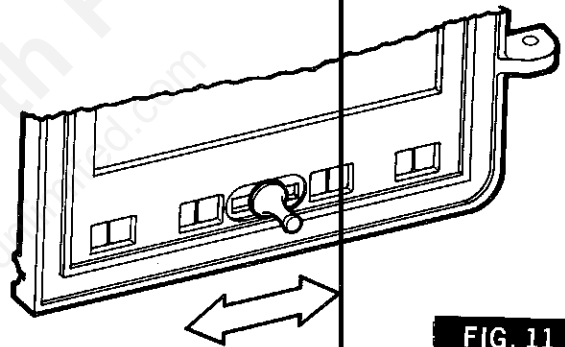

FIG. 11
1. Open the air inlet shutter on each door (See Fig. 11).
1. The temperature in the room and the rate at which wood is burned can be controlled by adjustment of the air inlet shutters (Fig. 11) and the flue outlet damper. Close the air inlet shutters and/or the flue outlet damper partially or fully to reduce the rate of burn and temperature in the room. Open the air inlet shutters and/or the flue outlet damper to the fully open position to obtain maximum rate of burn and room temperature.